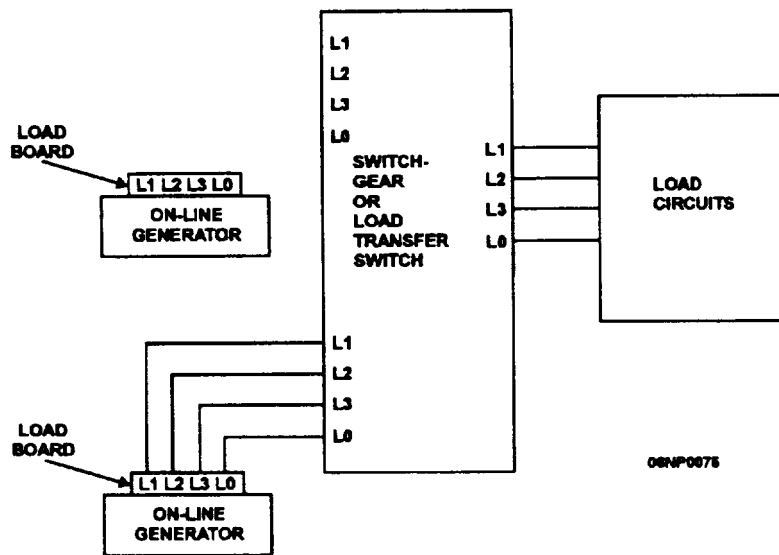

Figure 3-20.—Parallel operation connection diagram.
NOTE: These procedures assume that one generator set is on line (operating and connected to the distribution feeder lines through the switchgear). The set that is to be paralleled is designated the incoming set (fig. 3-20).
SYNCHRONIZING LIGHTS (fig. 3-19) will bring the phase and frequency into exact agreement. As the phase and frequency approach the same value, the SYNCHRONIZING LIGHTS will gradually turn on and off. When the blinking slows to a rate of once per second or slower, close the main circuit breaker of the incoming set while the SYNCHRONIZING LIGHTS are at a point of being dark. The phase sequence relates to the order in which the generator windings are connected. If the phase sequence is not correct, the SYNCHRONIZING LIGHTS will not blink on and off together. When the incoming set is first connected to the load through the appropriate switchgear (fig. 3-20), you should observe one of four occurrences. When the phase sequence, voltage, frequency, phase, and engine performance are the same, the changeover will be smooth with only the slightest hesitation in engine speed; if each output is slightly out of phase, one of the engines will shudder at the point of changeover; if the phase sequence or voltage levels are incorrect, the reverse power relay will trip on one of the generator sets and open its main circuit breaker contactors; if the incoming generator set loses speed significantly or almost stalls, the incoming engine may be defective.
1. Connect the incoming set, as shown in figure 3-20.